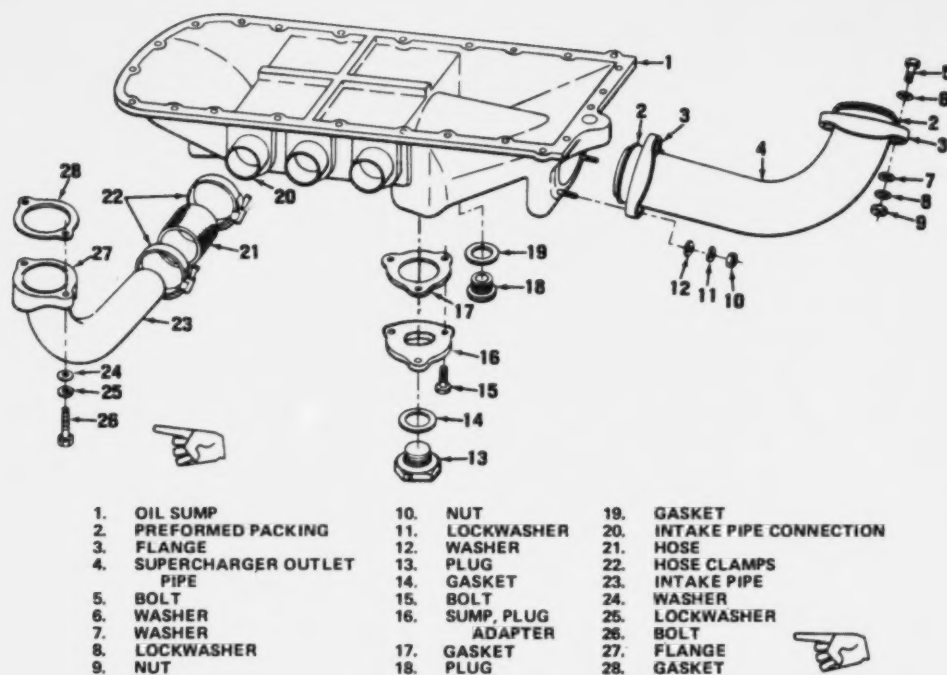

Figure 5-9. Oil Sump Installation.
5-41. Each cylinder is equipped with a steel intake pipe (23, figure 5-9). The intake pipes are
a. Removal. (1) Remove necessary engine cowlings. (Refer to paragraph 5-172.)
(2) Disconnect primer line and lower spark plug from cylinder.
(3) Remove clamps securing primer line and spark plug lead to intake pipe.
(4) Remove bolts (26, figure 5-9), lockwashers (25), and washers (24) securing intake pipe (23) to cylinder.
(5) Loosen hose clamps (22) securing hose (21) to intake pipe connection (20).
(6) Pull inner end of intake pipe (23) free of intake pipe connection (20) and remove intake pipe.
(7) Remove hose clamps (22) and hose (21) from intake pipe (23).
(8) Remove gasket (28) from cylinder.
b. Cleaning. Clean intake pipe, hose clamp, and intake pipe connection with a clean cloth moistened with dry cleaning solvent (item 6, table 1-8).
c. Inspection. (1) Inspect intake pipe for dents, cracks, and chipped paint.
(2) Inspect hose clamp for cracks and distortion of worm gear.
(3) Inspect hose for deterioration.
(4) Inspect intake pipe connection for dents, cracks, and looseness in engine oil sump.
(5) Inspect flange for cracks and malformed stud holes.
d. Installation. (1) Install hose (21, figure 5-9) on inner end of intake pipe (23), and slide hose on intake pipe until hose is flush with end of intake pipe.
(2) Position gasket (28) over studs on intake port of cylinder.
(3) Install hose clamps (22) on hose (21) but do not tighten at this time.
(4) Position intake pipe (23) on cylinder and install washers (24), lockwashers (25), and bolts (26). Tighten nuts (26) to a torque of 75 inch-pounds.
5-43. The oil sump (1, figure 5-9) has provisions for an integral intake manifold, a collection point for oil, and an oil drain plug. Oil sumps on O-480-1B and O-480-3A engines are similar except for the configuration of the intake manifold riser, which begins at the supercharger outlet pipe connection at the rear of the sump.
5-45. The supercharger outlet pipe (4, figure 5-9) is located at the rear of the engine. One end of the supercharger outlet pipe connects to the rear of the oil sump (1) and the other end connects to the supercharger housing. As the fuel-air mixture leaves the supercharger, it is carried through the supercharger outlet pipe to the oil sump.
(2) Remove nuts (9, figure 5-9), lockwashers (8), washers (7), bolts (5), and washers (6) securing supercharger outlet pipe (4) to supercharger housing.
(3) Remove nuts (10), lockwashers (11), and washers (12) securing supercharger outlet pipe (4) to oil sump (1).
(4) Remove supercharger outlet pipe (4) from engine.
(5) Remove preformed packings (2) and flanges (3).
b. Cleaning. Clean supercharger outlet pipe with a clean cloth moistened with dry cleaning solvent (item 6, table 1-8).
c. Inspection. (1) Inspect supercharger outlet pipe for dents, cracks, and distortion.
(2) Inspect flanges for cracks and malformed stud and bolt holes.
d. Installation. (1) Install flanges (3, figure 5-9) and preformed packings (2) on each end of supercharger outlet pipe (4).
(2) Position supercharger outlet pipe (4) on engine.